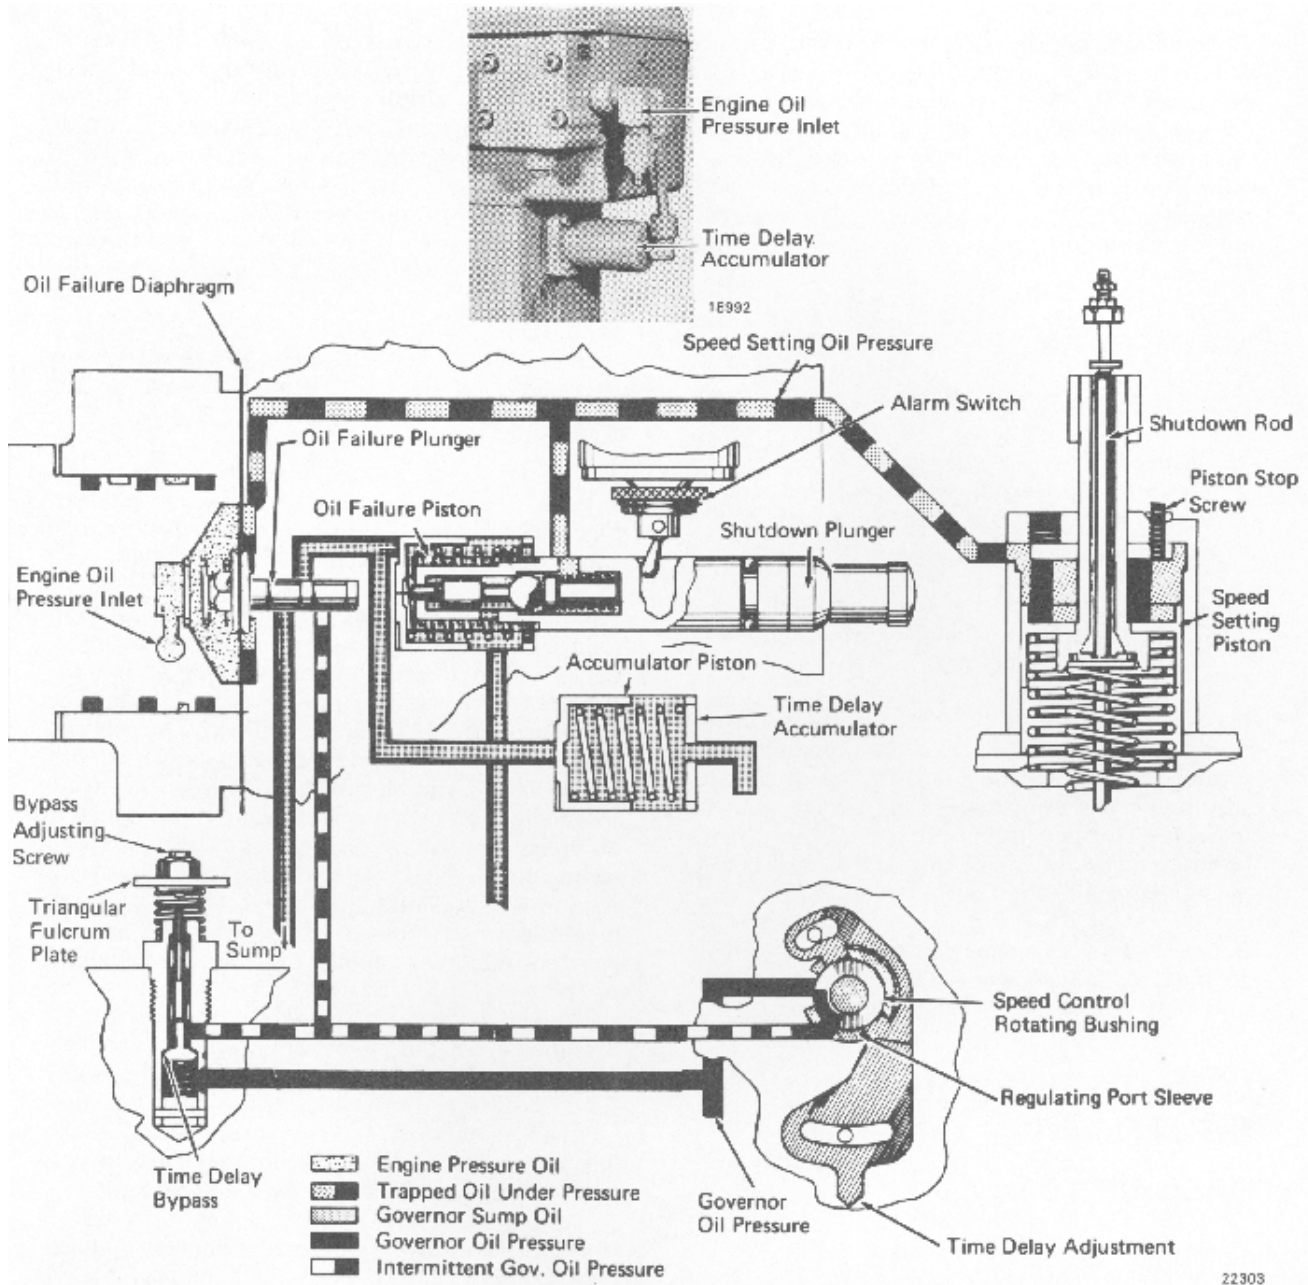

Fig. 12-14 -- Low Oil Pressure Shutdown Device
The low oil pressure shutdown device, Fig. 12-14, is an integral part of the governor. The device will respond, by shutting the engine down, when a low oil condition is created. This can be caused by any of the following:
The shutdown device in the governor, Fig. 12-14, consists of an oil failure diaphragm and plunger, time delay accumulator, oil failure piston, ball valve, shutdown rod, and an alarm switch.
2. Back off several turns on the bypass adjusting screw, Fig. 12-14, located in the triangular plate between the "A," "C," and "D" solenoids.